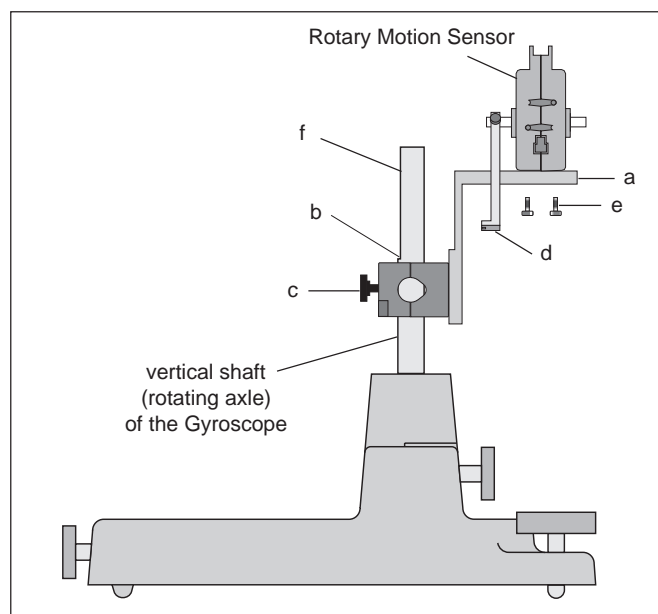

Figure 2
- ① Loosen the thumbscrew that secures the gyroscope assembly to the vertical shaft (rotating axle) and lift the gyroscope assembly off the vertical shaft.
- ② Slide the clamp onto the vertical shaft of the Gyroscope, the platform of the bracket facing up, [Figure 2 (a)].
- ③ Position the top of the clamp 1 mm below the flat of the vertical shaft (about 43 mm from the top of the shaft) [Figure 2 (b)]. Position the clamp's thumb screw perpendicular to the flat of the vertical shaft and tighten it [Figure 2 (c)].
- ④ Slide the connecting arm onto the RMS axle, with the forks of the slotted guide arm facing away from the RMS [Figure 2 (d)].
- ⑤ Secure the RMS to the bracket with the two small thumb screws [Figure 2 (e)].
- ⑥ Replace the gyroscope assembly, tightening the thumb screw against the flat of the vertical shaft [Figure 2 (f)].